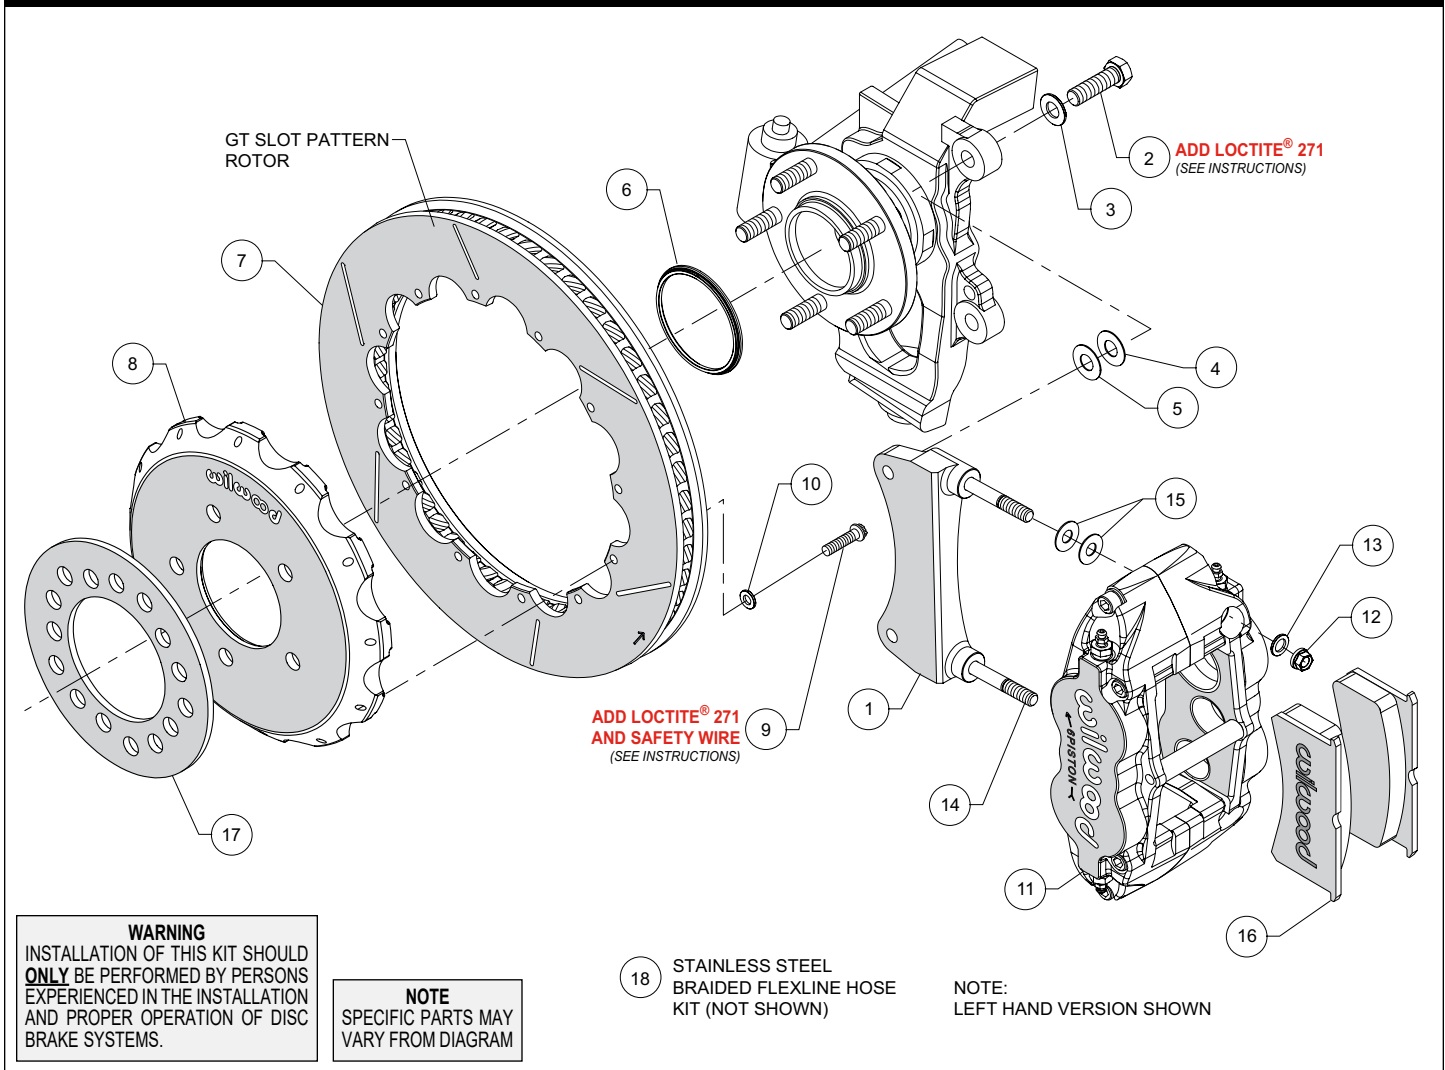
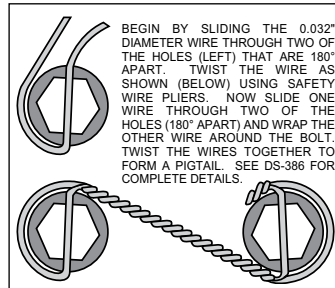

Figure 1. Typical Installation Configuration
Figure 3. Safety Wire Diagram
Assembly Instructions (numbers in parenthesis refer to the parts list and Figure 1 on the preceding pages):
- The caliper mount bracket (1) should initially be installed with clean, dry threads on the mounting bolts. Orient the bracket as shown in Figure 1 and Photo 1, and install using washers (3) and bolts (2). Initially place one .033 thick shim (4) and one .015 thick shim (5) on each bolt between the bracket and upright, Figure 1. Temporarily tighten the mounting bolts. **NOTE:** *The bracket must fit squarely against the mount bosses on the upright.* Inspect for interference from casting irregularities, machining ridges, burrs, etc. Later, after the caliper alignment has been checked, the mount bolts will be secured using red *Loctite*® 271.
- Orient the rotor (7) and the hat (8) as shown in Figure 1 and Photo 2. Attach rotor to hat using bolts (9) and washers (10). Apply red *Loctite*® 271 to the bolt threads and torque to 155 in-lb using a criss-cross pattern. Safety wire bolts using standard 0.032 inch diameter stainless steel safety wire as shown in Figure 3. Please refer to Wilwood's data sheet DS-386 (available at www.wilwood.com/Pdf/DataSheets/ds386.pdf) for complete safety wire installation instructions.
- Slide the rotor registration adapter (6) onto the axle register on the axle hub with the smaller O.D. facing outward, Photo 3. Slide the hat/rotor assembly (8 and 7) onto the axle hub. **NOTE:** *The hat must fit flush against the axle hub flange or excessive rotor run out may result.* Install three lug nuts (finger tight) to keep the hat/rotor assembly in place while continuing with the installation.
- **NOTE:** *This kit contains distinct right and left hand calipers that must be mounted in a specific direction, as described below.* Initially place two .035" thick shims (15) on each stud (14) as shown in Figure 1 and Photo 4. Mount the caliper (11) onto the bracket (1) using lock nuts (12) and washers (13), Figure 1. Ensure that the caliper is mounted so that the largest pistons are at the rotor exit end of the caliper, in relation to the direction of rotor rotation. Temporarily tighten the lock nuts and view the rotor through the top opening of the caliper. The rotor should be centered in the caliper, Photo 5. If not, adjust by adding or subtracting shims (4 and/or 5) between the bracket and the upright. Always use the same amount of shims on each of the two mounting bolts. Once the caliper alignment is correct, remove the bracket mounting bolts (2) one at a time, apply red *Loctite*® 271 to the threads, and torque to 60 ft-lb.
- Install the wheel spacer (17) against the hat face, Figure 1 and Photo 8. **NOTE:** *Spacer is required to clear stock wheels.* Temporarily install the wheel and torque the lug nuts to the manufacturer's specification. Ensure that the wheel rotates freely without any interference.